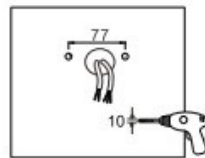

Figure 6
3. YOKE MOUNTING (YM)
Step 1: Drill holes on the wall as shown. [Figure 6]